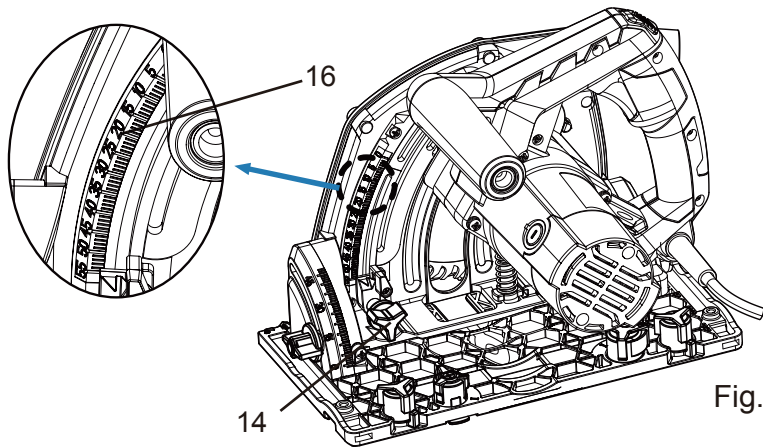

Fig. 3
1. Loosen the depth adjustment knob (14) and slide it to the desired cutting depth according to the depth scale (16) to set the cutting depth. (Refer to Fig. 3)